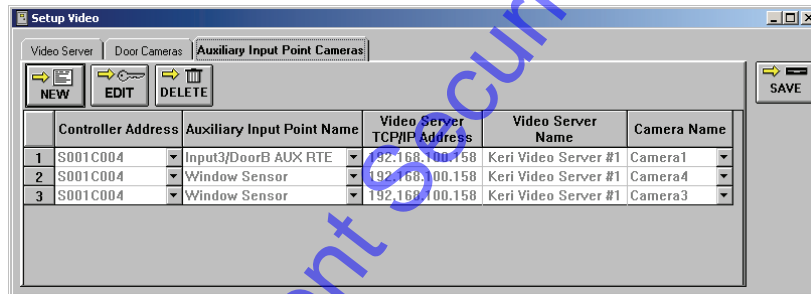

Figure 15-12: Auxiliary Input Point and Cameras Assigned
3. The finished window may appear similar to Figure 15-12.